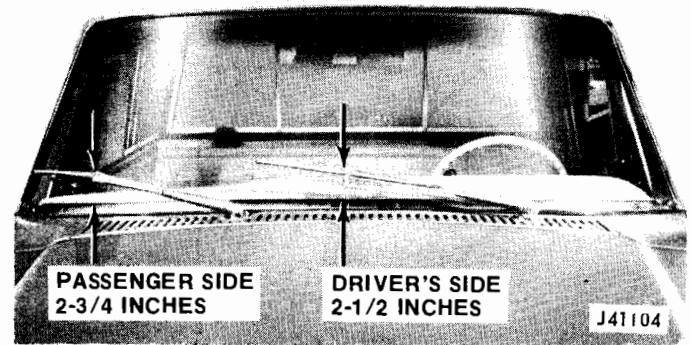

Fig. 17-12 Wiper Arm Park Position—Cherokee-Wagoneer-Truck
(2) To install, position auxiliary (if equipped) over pivot pin and engage retainer clip. Push wiper arm over pivot shaft. Be sure that pivot shaft is in park position and wiper arm is positioned as shown in figure 17-12.